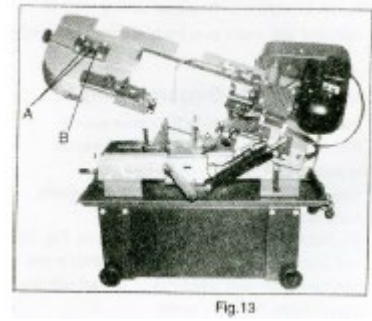

Fig.13
5. Loosen the bolts (A - fig. 13).
6. Turn the adjustment screw (B) while observing the blade's tracking on the wheel. Turn clockwise to move the blade closer to the wheel flange and anti-clockwise to move the blade away from the wheel flange.